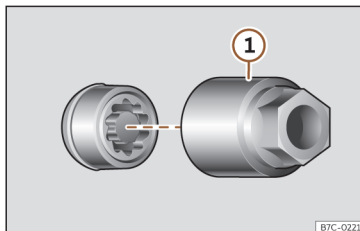

Fig. 37 Anti-theft wheel bolt with cap and adapter.
- Insert the special adapter >>> Fig. 37 ① (vehicle tools >>> page 43) onto the anti-theft wheel bolt and push it on as far as it will go.